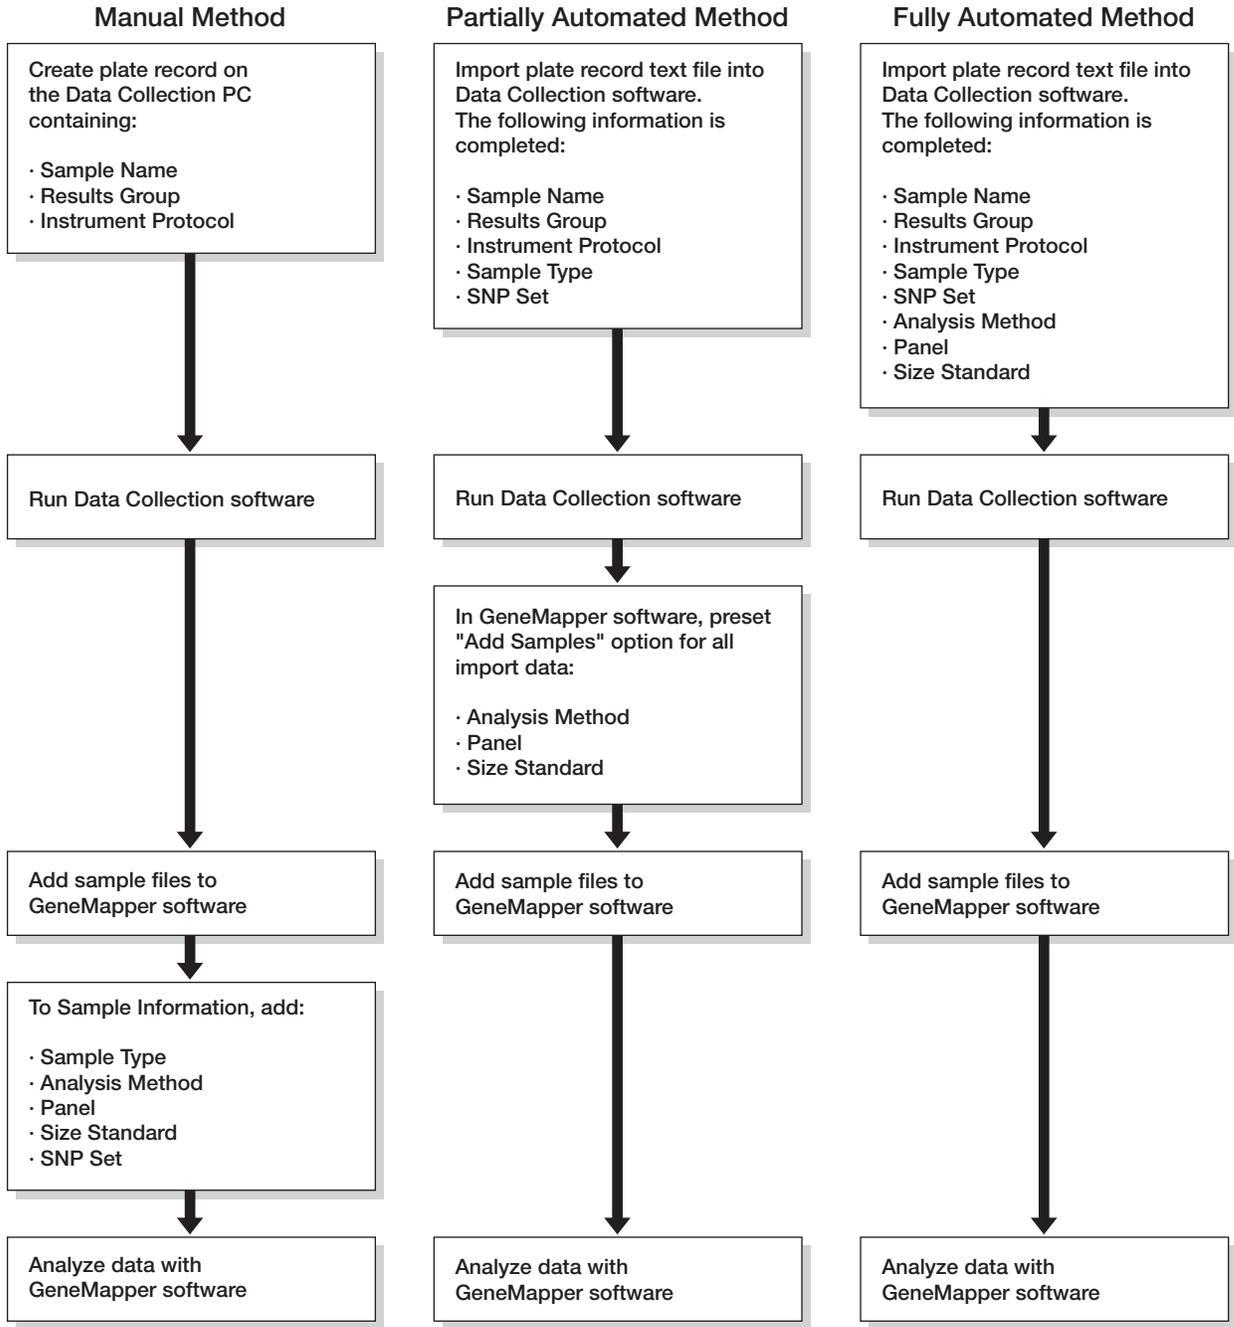

Figure 3-3 Three possible methods for creating plate records
There are several ways to create plate records. Figure 3-3 illustrates three possible methods: manual, partially automated, and fully automated.
Applied Biosystems recommends using a partially automated method to generate plate records (see Figure 3-3). Such a method helps eliminate problems arising from data-entry errors and can also greatly reduce the time spent setting up plate records.
10.	If running more than one plate, repeat steps 3 to 9 . <p>Note: At this point you have specified only the Sample Name, Results Group, and Instrument Protocol fields, as shown in the manual workflow in Figure 3-3 on page 3-35. You must specify the rest of the information in the plate record (specifically, in the GeneMapper Sample Table after adding sample files) before you can analyze the data using GeneMapper software.</p>